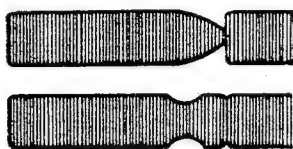
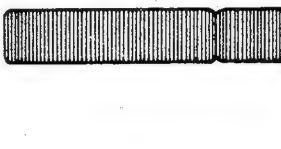
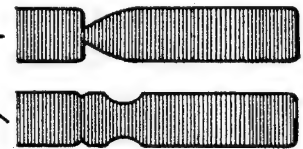

Fig. 4-21
Fig. 4-22
Fig.4-23
5. If the FM waveform observing by oscilloscope as same as shown in Fig. 4-21, adjust screw ⑥ until waveform becomes as shown in Fig. 4-22.
6. If the FM waveform observing by oscilloscope is as same as shown in Fig. 4-23, adjust screw ⑤ until wave form becomes as shown in Fig. 4-22.